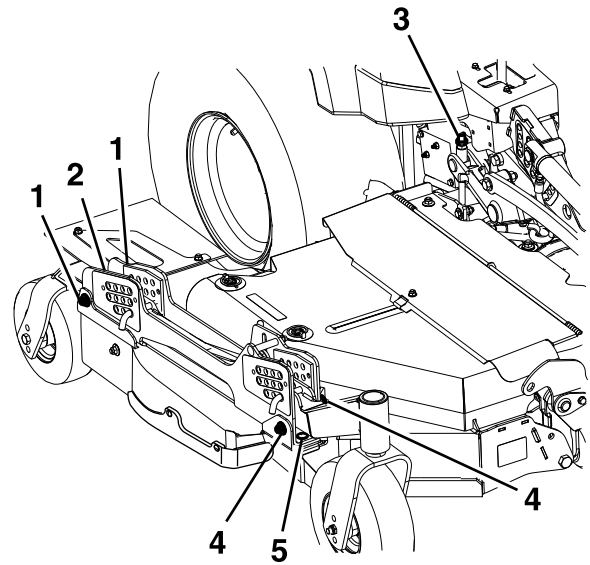

Figure 75
3. The left and right wing decks have blade height adjustments with front and rear adjustment points. To adjust the wing-blade height, first loosen the front and rear height-of-cut hanger mounting nuts. There are 4 locations (2 on each side of the channel) as shown in Figure 75.
- If the deck is too low, tighten the front height-adjustment bolt (Figure 75) by rotating the bottom nut clockwise.
- If the deck is too high, loosen the front height-adjustment bolt (Figure 75) by rotating the bottom nut counterclockwise. Fine-tune the rear adjusters as required.
Adjust the rear wheel height (Figure 75) so that the rear wheel lightly touches the ground with minimal pressure.
4. Measure the back of the wing blades. If either has less than 1.5 mm (1/16 inch) rake, raise the rear of the deck by tightening the left and right rear adjustments (Figure 75) until all 4 blades have a minimum of 1.5 mm (1/16 inch) rake. Adjust the rear wing wheels so that they lightly touch the ground with minimal pressure. Tighten all 4 rear hanger-mount locations (Figure 75).